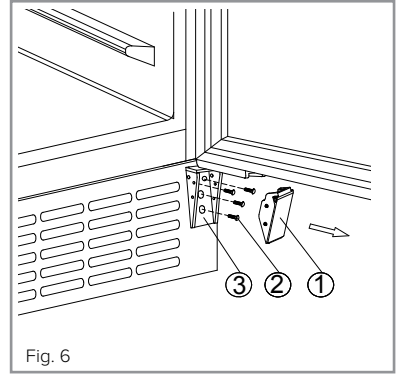

Fig. 6
1. Remove both plastic covers "1" then remove the bottom hinge "3" by unscrewing the four screws "2". Be careful not to allow the glass to drop after removing the screws (Fig. 6).
8. Fit the plastic covers "1" (Fig. 6).